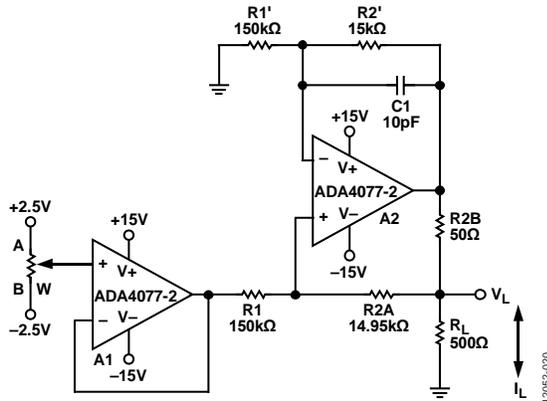

Figure 22. Programmable Bidirectional Current Source
For applications that require bidirectional current control or higher voltage compliance, a Howland current pump is one solution (see Figure 22).
R2B, in theory, can be made as small as necessary to achieve the current needed within the ADA4077-2 (A2) output current driving capability. In the circuit shown in Figure 22, A2 delivers ±5 mA in both directions and the voltage compliance approaches 15 V. It can be shown that the output impedance (ZO) is